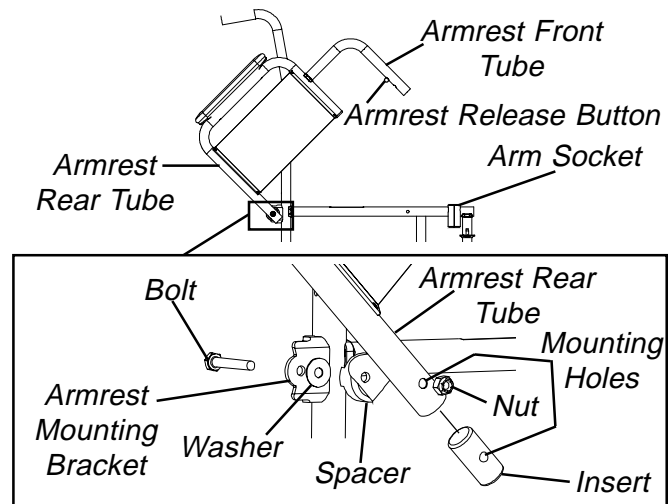

FIGURE 3 - USING OR REPLACING FLIP-BACK ARMREST
5. Insert the new bolt through the armrest mounting bracket, new washer, new spacer and new armrest rear tube, as shown in FIGURE 3.